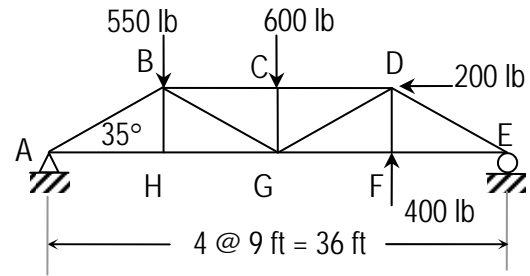

Figure 2a
- A parallel chord truss is shown in the Figure 2a has the following support reactions: